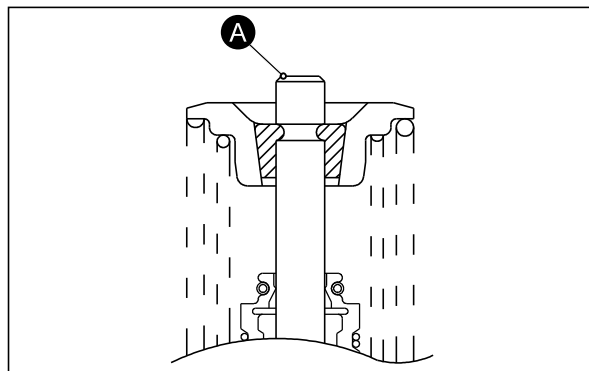

Fig. 3.71
- Inspect the valve stem end face (A) for pitting and wear. If pitting or wear noticed, replace the valve with a new one. (Fig. 3.71)